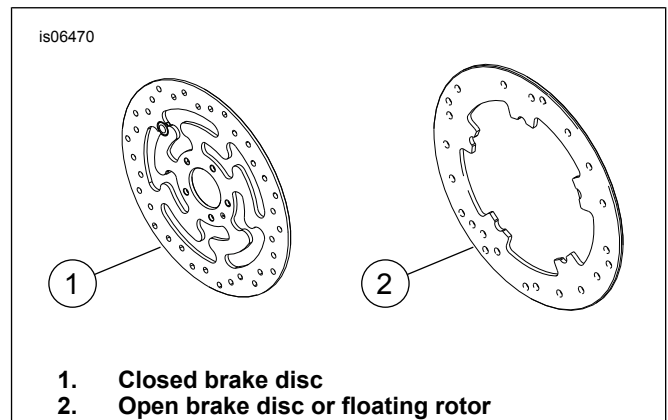

Figure 1. Front Brake Disc Styles
- Brake Disc Screws (See Figure 1. and Table 1)